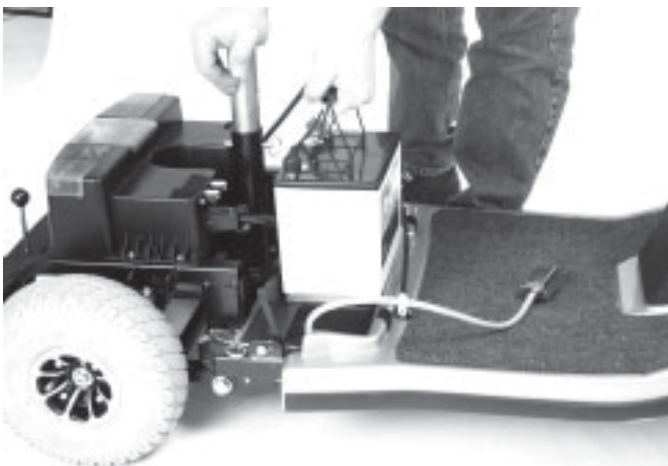

FIGURE 22. BATTERY REMOVAL
8. Lift both batteries off the Legend. See figure 22.